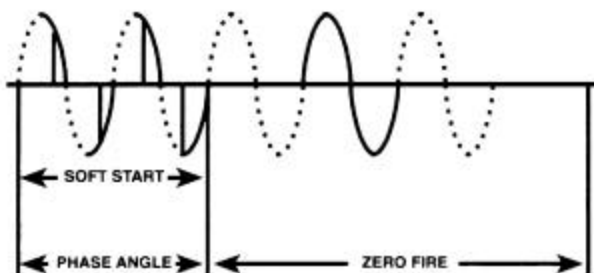

Figure 17: Soft Start utilizing phase angle firing combined with zero cross firing combines the best of both worlds.
- II) **High inrush applications.** These applications draw a very high current for a short time on power up and then the current decreases as the unit approaches normal operation. Phase angle control should be utilized on these loads. Phase angle provides a feature called Soft Start. Soft Start limits the amperage output on start-up and ramps the amperage slowly from zero output to full operating power as dictated by the process controller. The soft start feature is utilized to overcome the inrush period. Soft Start is shown in Figure 17 below over just a few cycles. In most cases, however, Soft Start is utilized over seconds or minutes slowly increasing the output over hundreds of cycles.